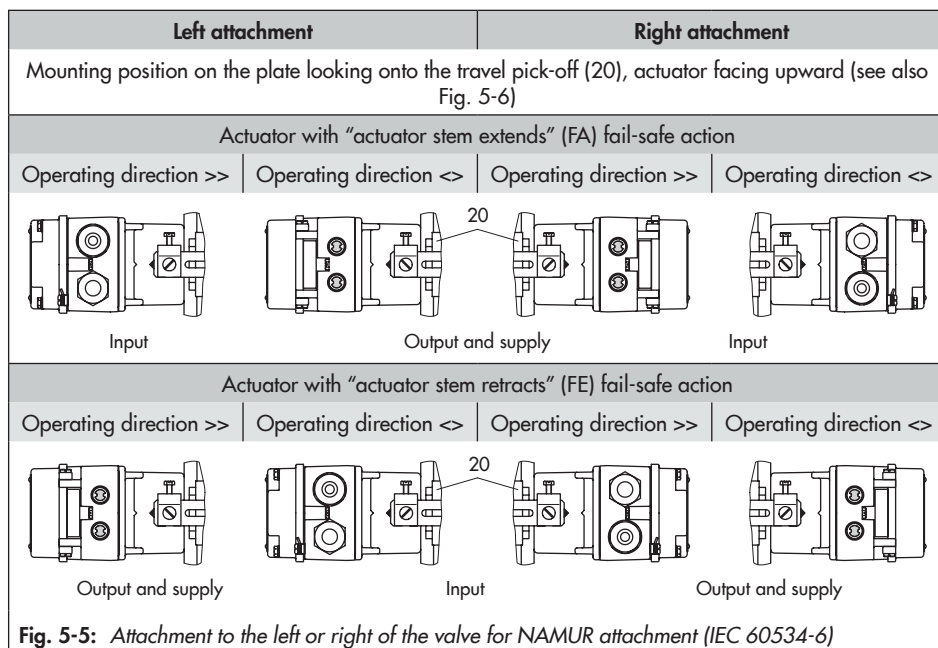

Fig. 5-5: Attachment to the left or right of the valve for NAMUR attachment (IEC 60534-6)
The positioner can be mounted either on the left or right side of the control valve (Fig. 5-5). Turn the positioner at the adapter housing by 180° to determine or change the operating direction of the positioner/control valve unit.
2. Remove the rubber stopper from the adapter housing and fasten the adapter housing either on the left or right of the NAMUR rib using the hex head screw as shown in Fig. 5-5.
1. Screw the plate (3) to the follower clamp of the plug stem.
2. Screw the studs (12) into the adapter housing.
3. Place the adapter housing with the plate (13) onto either the left or right valve rod (Fig. 5-5) and screw tight using the nut
(14). Make sure that the adapter housing is at the correct height to mount the lever (1) so that it is in a horizontal position when the valve is at mid-travel.